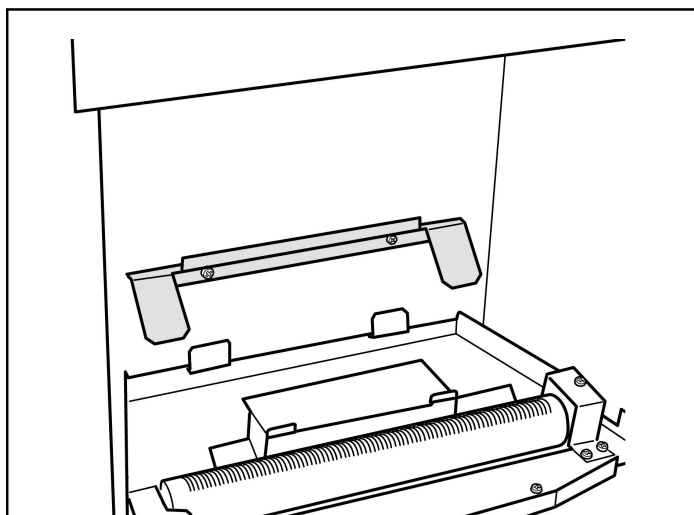

Figure 15. Fitting the rear ceramic support.
8. This appliance is supplied with a rear ceramic support bracket. Fit this using two screws supplied (See figure 15).